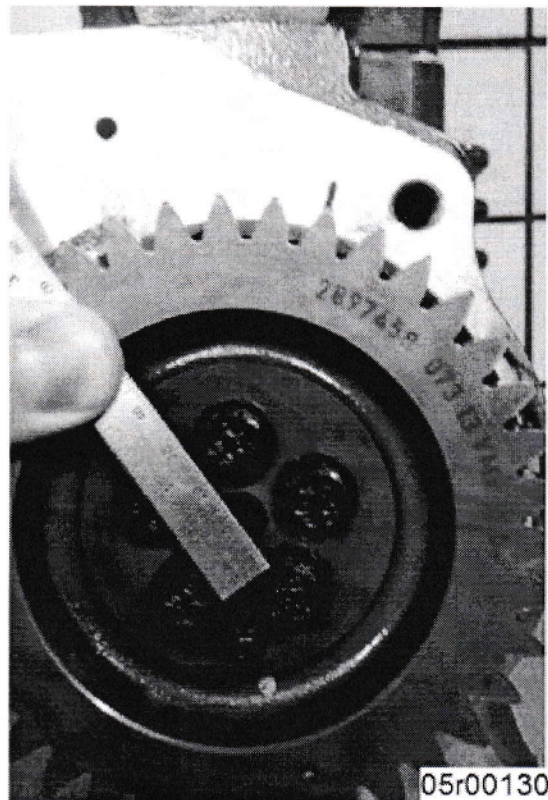

Figure 4, Mark Fuel Pump Housing (ISX15 CM2350 X101 and X15 CM2350 X114B).
- Example in Figure 4 below is an approximate location. All marks **must** be made by counting gear teeth and **not** by matching Figure 4.